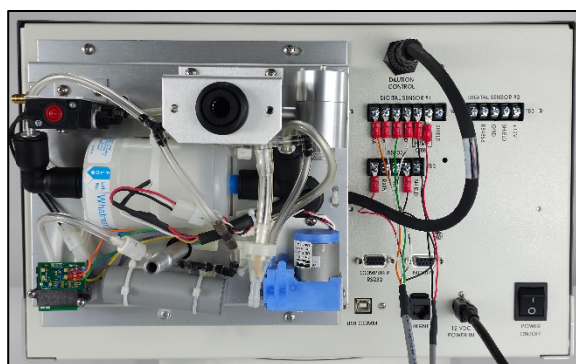

Figure 2-9 Dilution Flow System Exhaust Adapter
- f. Insert the 82793 Exhaust Adapter tube into the exhaust (**Figure 2-9**).